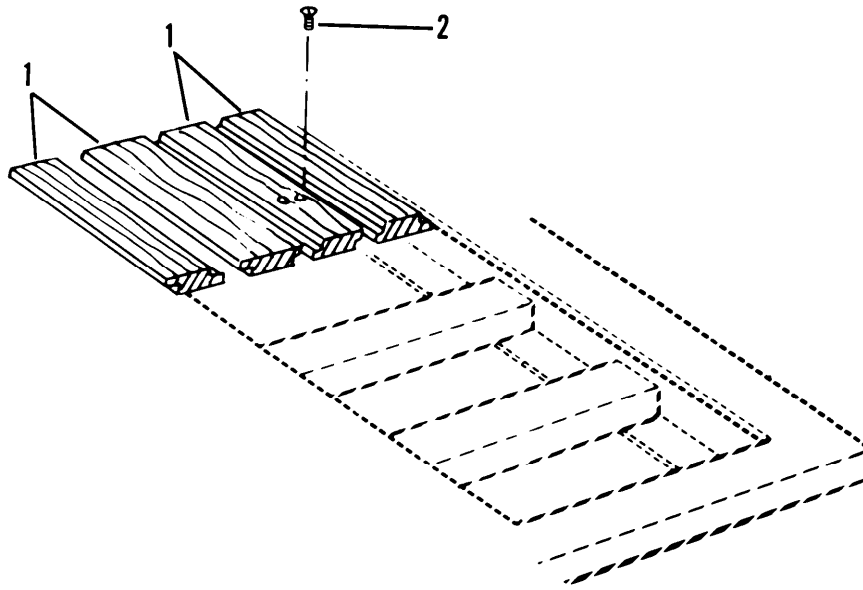

Figure 4-62. Floor
- (1) Measure plank (1, fig. 4-62) to be replaced.
- (2) Remove screws (2) as needed to free plank (1).
- (3) Lift planks (1) away from frame.
- (4) Repeat as needed for any other planks needing replacement.
- (1) Place planks (1, fig. 4-62) into position.
- (2) Install screws (2).
- (3) Repeat for other planks that were removed.